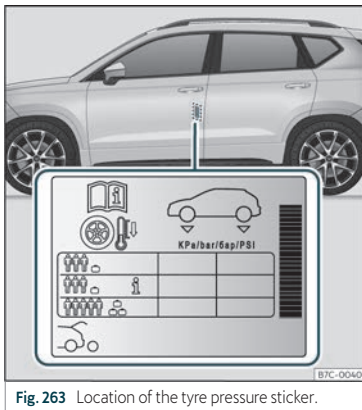

Fig. 263 Location of the tyre pressure sticker.
- Adjust tyre pressure to the load being carried by the vehicle >>> Fig. 263.
The tyre inflation pressures are listed on a sticker on the rear of the front left door frame >>> Fig. 263.
Depending on the vehicle, tyre pressure can be adjusted to medium load to improve driving comfort (tyre pressure **i**) >>> Fig. 263). When driving with comfort tyre pressure fuel consumption may increase slightly.
The tyre pressure must be adjusted according to the load the vehicle is carrying. If the vehicle is going to carry the maximum load, the tyre pressure should be increased to the maximum value indicated on the sticker >>> Fig. 263.
4.2 bar as indicated on the tyre pressure label >>> Fig. 263.
- The driver is responsible for ensuring that all of the vehicle tyres are correctly inflated to the right pressure. The recommended tyre pressure is indicated on the label >>> Fig. 263.
- When the tyres are cold, tyre pressure should be that indicated on the label >>> Fig. 263.